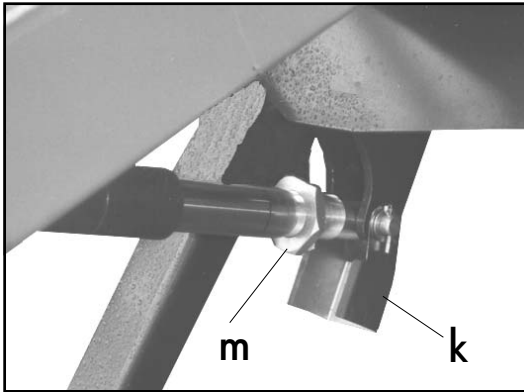

Figure 4-1
- Turn the nut "m" (SW 65) to the required position (figure 4-1)